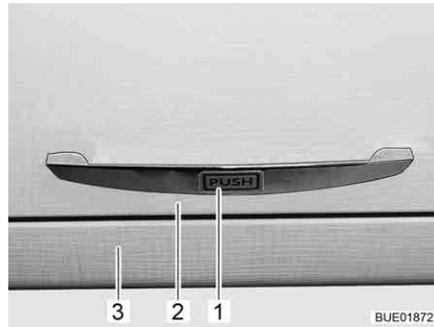

Fig. 43 Furniture flap with pressurised release
- Press the furniture flap (Fig. 43,2) with the handle (Fig. 43,1) against the cabinet body (Fig. 43,3). The furniture flap is unlocked.